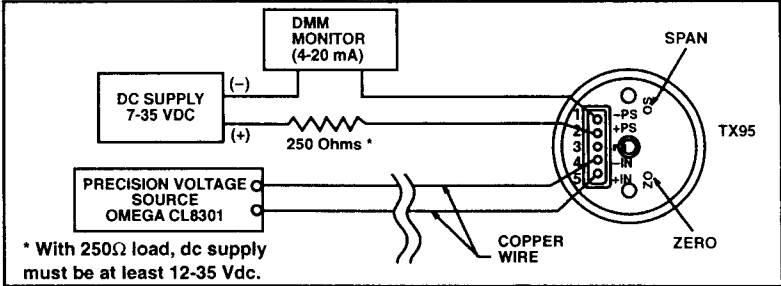

Figure 4-1 TX95 Voltage Calibration Set-Up
4.2 Calibration Procedures (Refer to Figure 4-1)
Connect the calibration equipment according to Figure 4-1. Standard copper test leads are used.